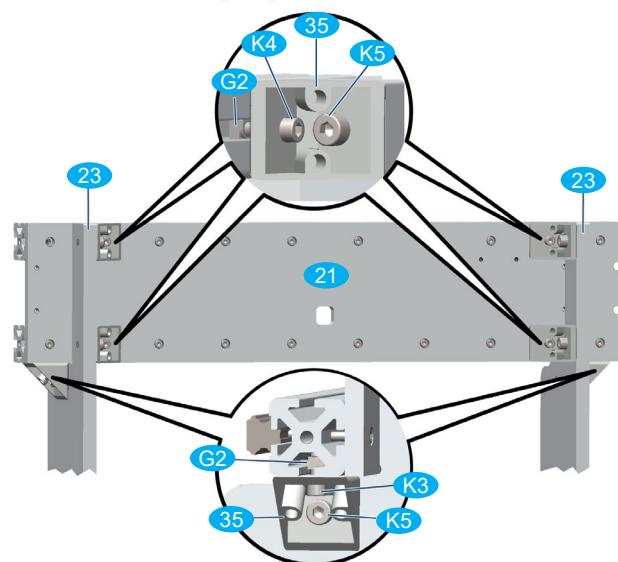

Fig. 19: Connection of portal beams and cheeks
- Insert the hammer nuts through the elongated holes on the back of the gantry beam into the profile and screw the brackets (Fig. 19, magnifying glass above); Tighten the screws slightly so that the angles can just be shifted.
- Screw two angles **35** with flat-head screws **K3** and hammer nuts **G2** to the lower profile of the gantry beam **21** (Fig. 19, magnifying glass below); Tighten the screws slightly so that the angles can just be moved on the profile.